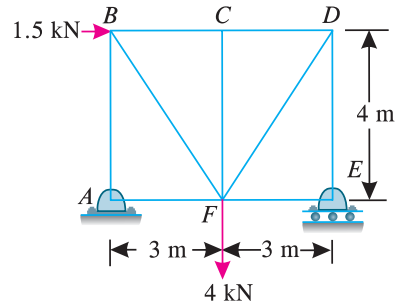

Fig. 13.66.
1. A truss shown in Fig. 13.66 is subjected to two points loads at  $B$  and  $F$ . Find the forces in all the members of the truss and tabulate the results.